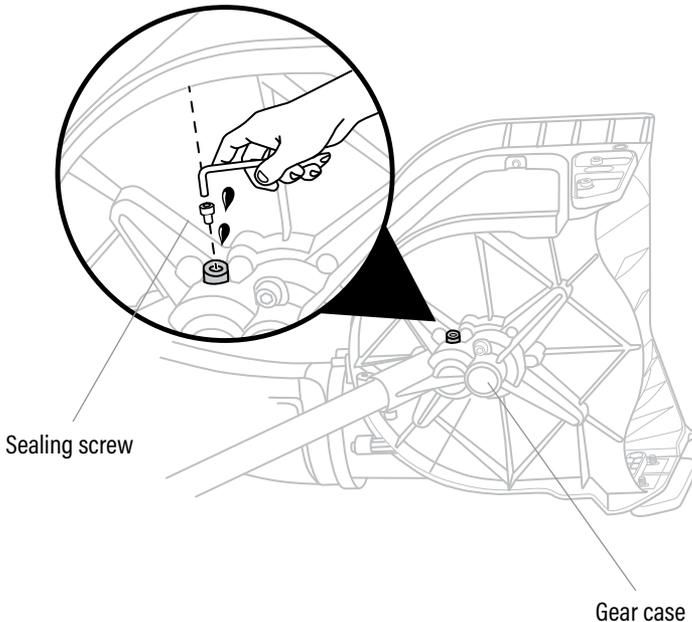

Fig. 10
1. Position the snow shovel attachment so that the sealing screw is facing upwards. (Fig. 10)